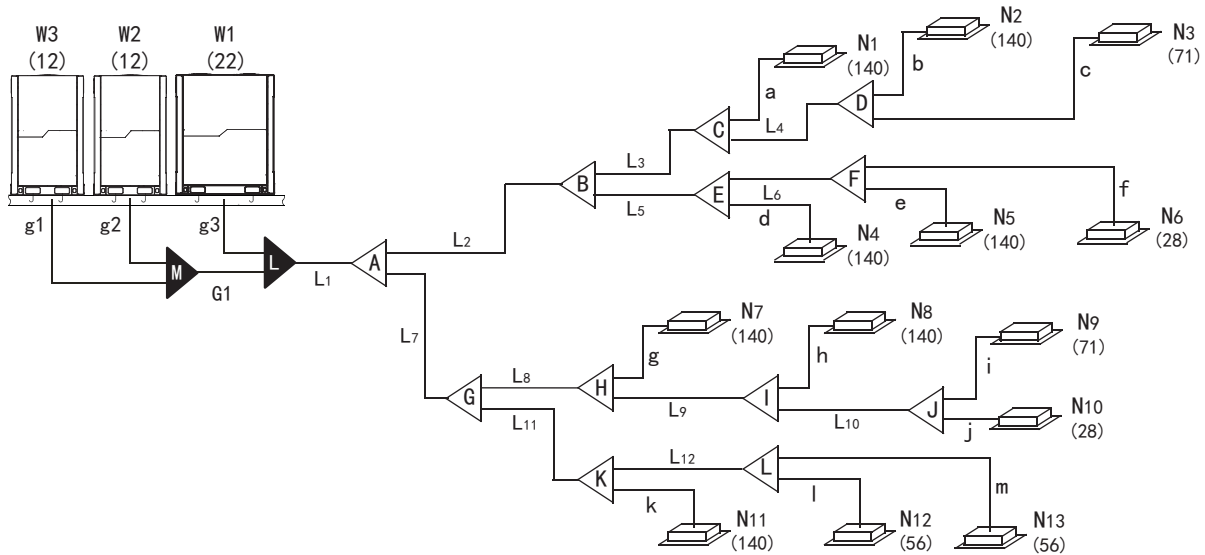

Fig.5-3
e.x.1: Refer to Fig.5-3, the capacity of downstream units to L4 is  $140+71=211$ ; the gas pipe for L4 is  $\Phi 19.1$ ; the liquid pipe is  $\Phi 9.5$ .